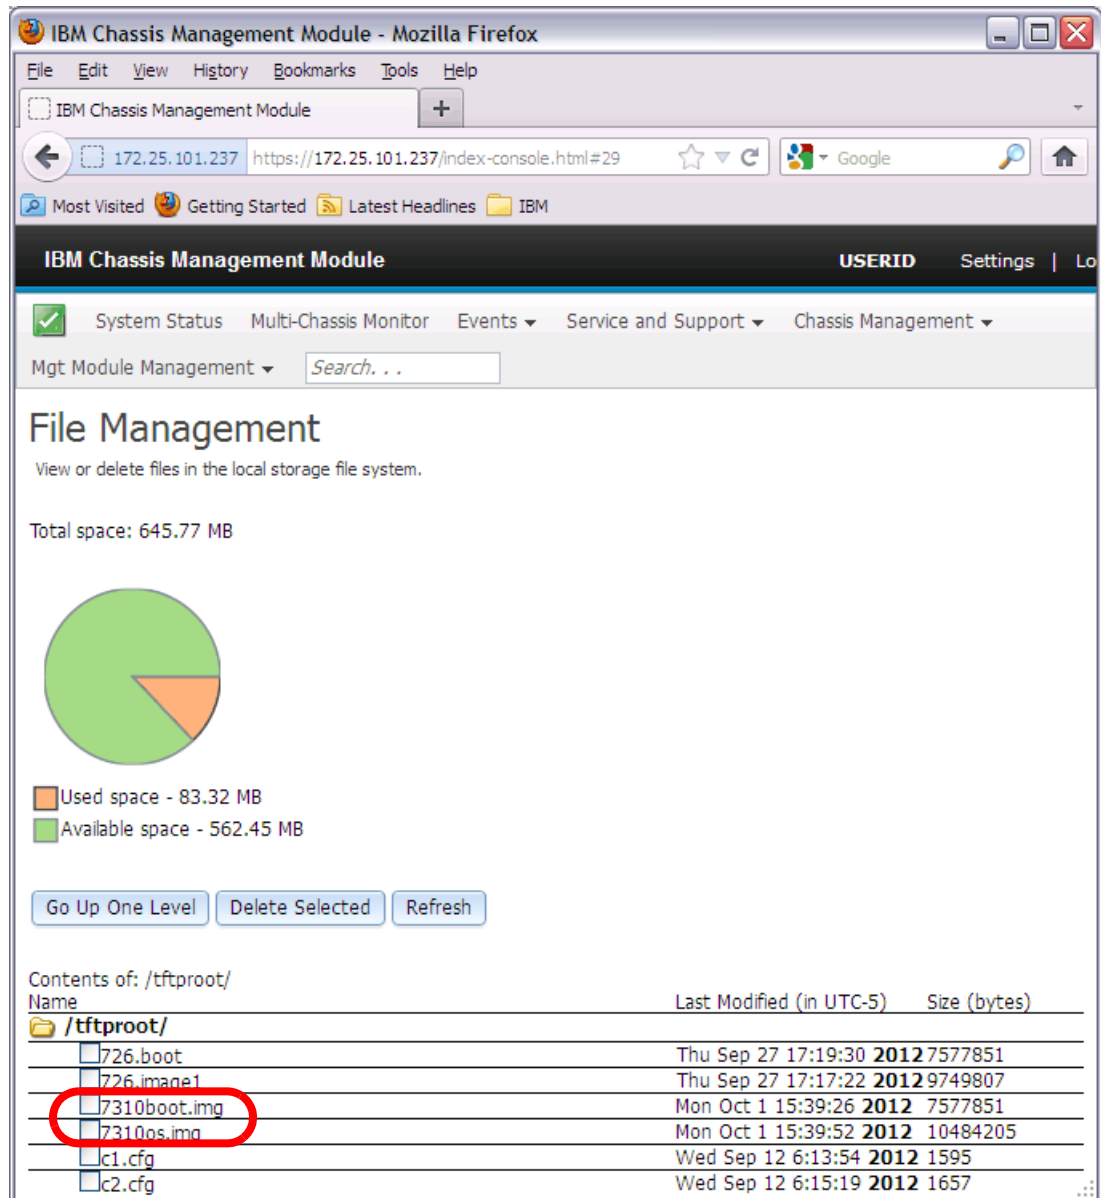

Figure 6-12 Firmware v7.3.1.0 image files on CMM TFTP server
2. We put the two files onto an FTP or SFTP server. In our example, we use the CMM built-in TFTP server. Figure 6-12 on page 277 shows the two files on CMM TFTP server.